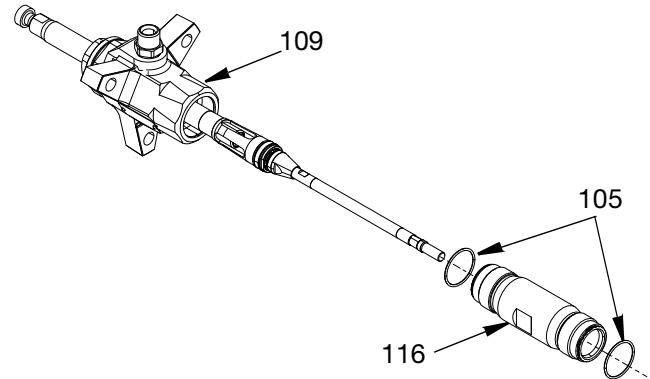

FIG. 10
9. Use an adjustable wrench on the flats of the cylinder (116) while the bench vice is secured to the outlet housing (109). Unscrew the cylinder from the outlet housing. Remove O-rings (105) from the cylinder. Inspect inside surface of cylinder for wear, scoring, or other damage by holding it up to a light at an angle or running a finger over the surface. See FIG. 10.